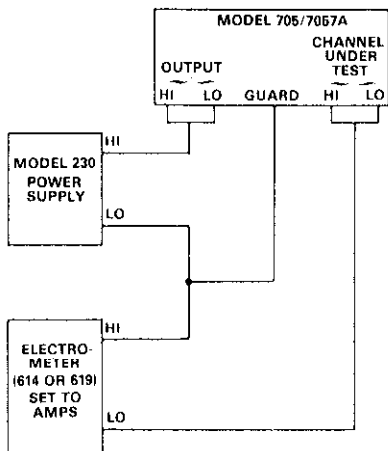

Figure 7. Channel Isolation Test Set Up
- A. This test measures the leakage resistance between two channels on the board. One channel is to be open and the other closed. Set up the test circuit shown in Figure 7.